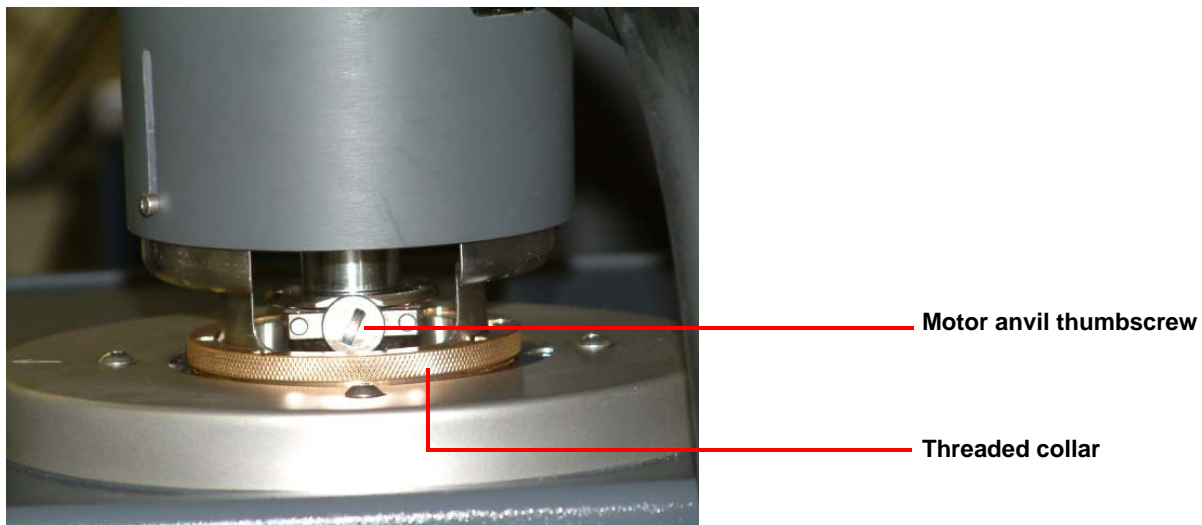

Figure 6 Peltier Plate secured to ARES-G2
- 5 Rotate the motor anvil to ensure that the flat side of the anvil and the thumbscrew are facing you as you face the instrument. Refer to Figure 6 for proper thumbscrew orientation.